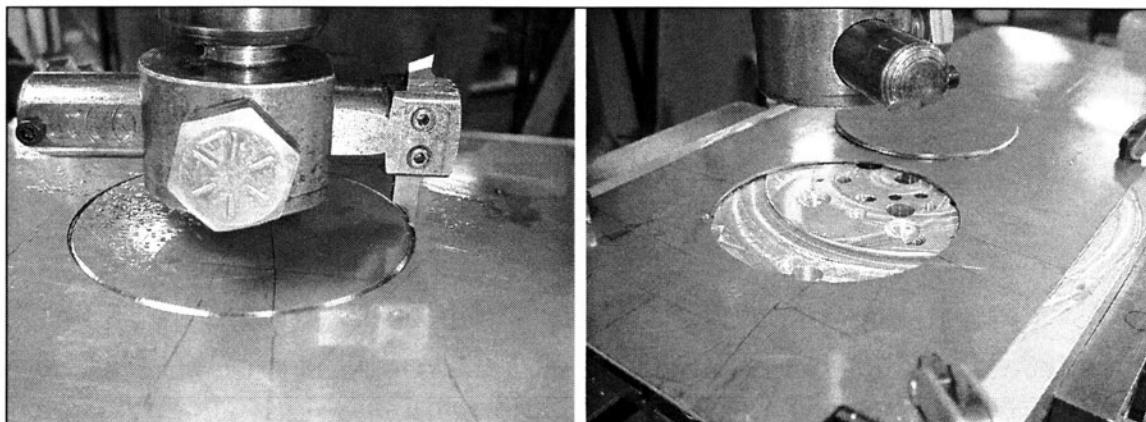

FIGURE 3-9 A fly cutter is used to cut a hole in sheet metal.
13. Use a fly cutter to cut holes in sheet metal. (See Fig. 3-9)